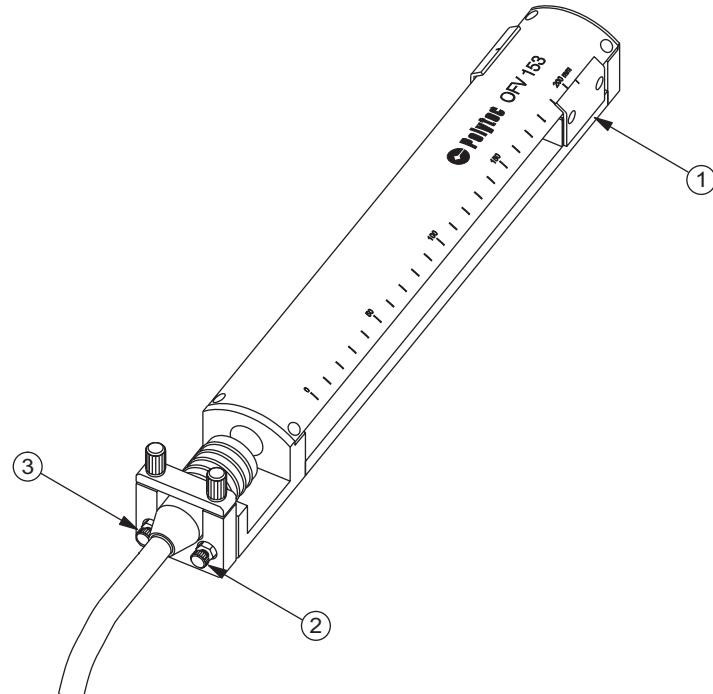

Figure A.3: Adjusting the laser beam in the reference head OFV-153
Move the slider **1** of the reference head OFV-153 in figure A.3 to its starting position at 0 mm.
7. Adjust the signal level to an optimum by turning the knurled screws **2** and **3** in figure A.3.